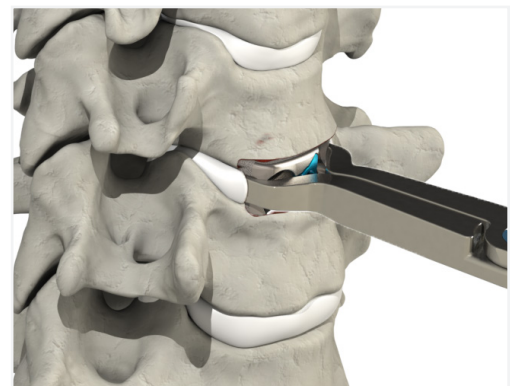

Figure 13
- ▲ If implant removal is required, the intervertebral space should be distracted in the same manner as for implant placement (Fig. 13). Once distracted, the implant may be removed by using either the Guided Inserter or Freehand Inserter.